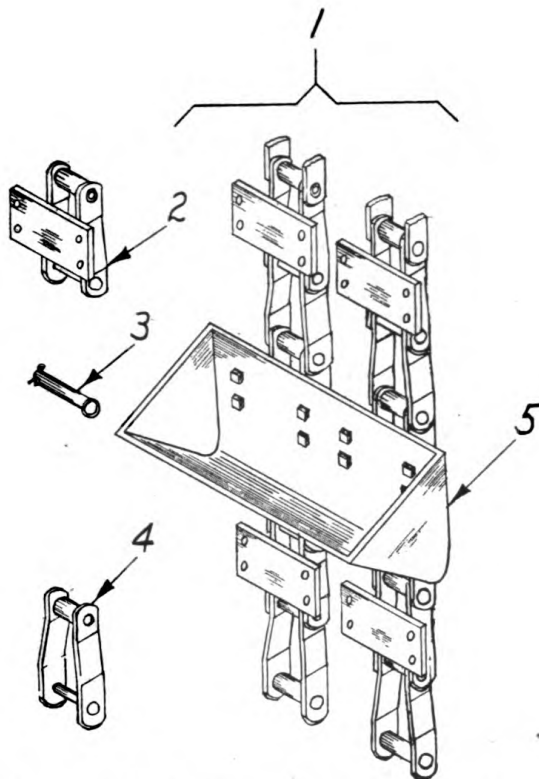

Figure 112. Bucket and bucket line chain.
Welded steel 19" x 8" x 9 $\frac{3}{4}$ " buckets (5), Figure 112 are mounted every second link on two strands of No. A-2842 Rex Chabelco steel roller chain on K-22 attachments (2) with four $\frac{1}{2}$ " bolts per attachment, or eight bolts per bucket.